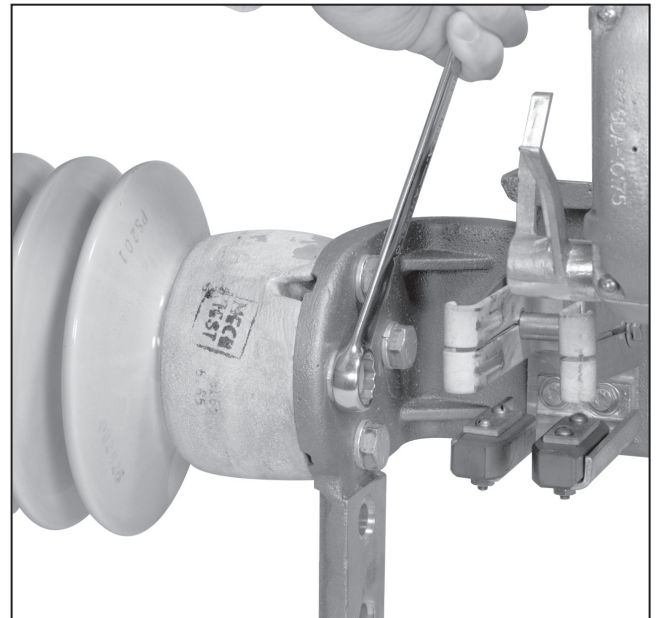

Figure 37. Adjusting the position of the terminal base casting.
- (h) If the conditions described above are not met, adjust as follows. Loosen the four $\frac{1}{2}$ -13 \times $1\frac{1}{4}$ -inch hex-head galvanized steel cap screws which fasten the terminal base castings to the stationary insulators. See Figure 37. Shift the terminal base castings as required. Tighten the terminal base casting cap screws and recheck for conformance to the conditions outlined above. Readjust if required. Make certain the terminal base casting cap screws are tightened to final tightness (55 ft.-lb.)